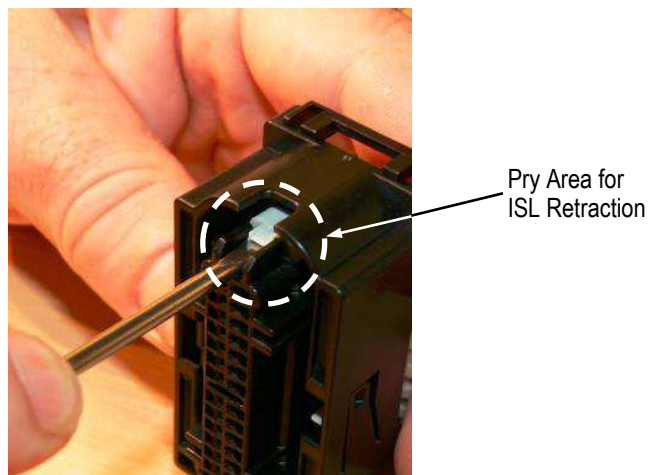

Figure 9
- b. Gently pry the end of the ISL away from the plug housing until the ISL is in the open position. There will be an audible click. See Figure 9.